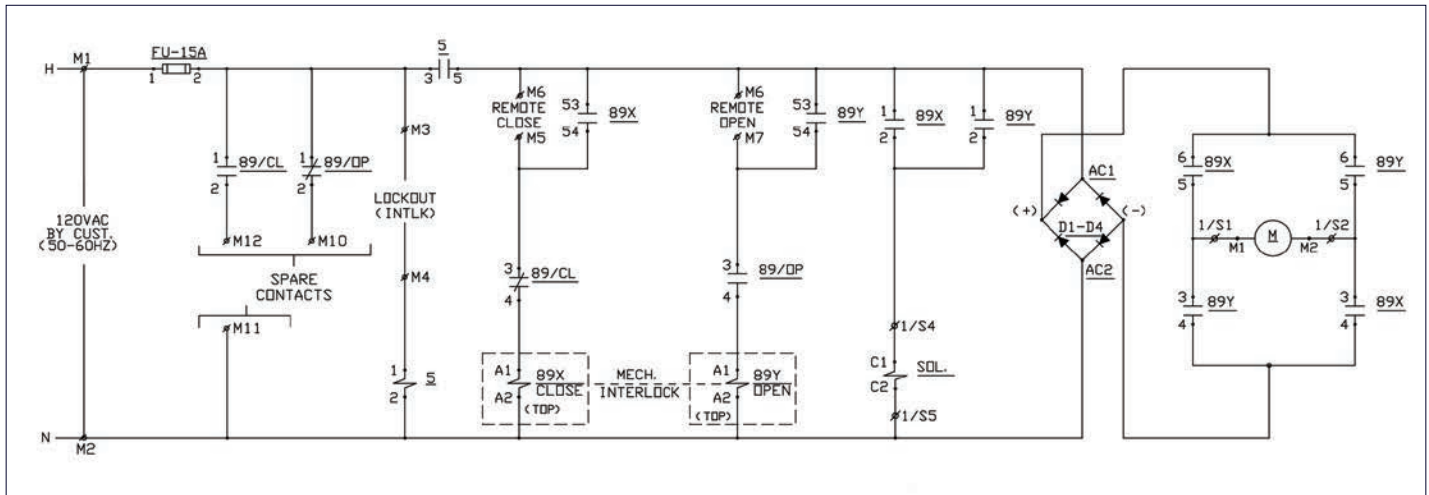

Figure 51: Figure 51: Control Diagram - 120 Vac
When the main interrupter (89) is signaled to operate (close), the 89-X coil (Figure 51) is energized, closing all of its contacts and mechanically blocking 89Y from being energized. Solenoid (SOL) is then energized.
To open the interrupter switch, apply a signal to the 89-Y coil (Figure 51). The interrupter switch will open in the same manner as described above and set-up the control circuit for a closing signal. To reverse from either a closing or opening operation, the polarity of the motor armature is reversed.
Decoupling test feature (optional) if required to test motor drive system without moving main switch blades can be accomplished by inserting a control switch in series with the solenoid (SOL) or simply removing decoupling jumper (Figure 51).
Device Legend (Figure 51 and 52)